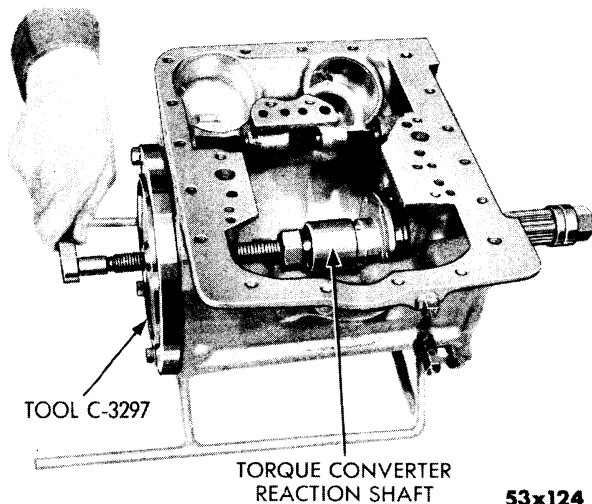

Fig. 100—Removing Torque Converter Reaction Shaft
- (1) Remove torque converter reaction shaft seal (neoprene).
- (2) Using a suitable brass drift, remove the reaction shaft dowel pin from reaction shaft flange and transmission case.
- (3) Remove the three transmission case-to-reaction shaft bolts and washers.
- (4) Using Tool C-3297, press reaction shaft out of transmission case (Fig. 100).
- (5) Remove the two torque converter reaction shaft seal rings (interlocking).